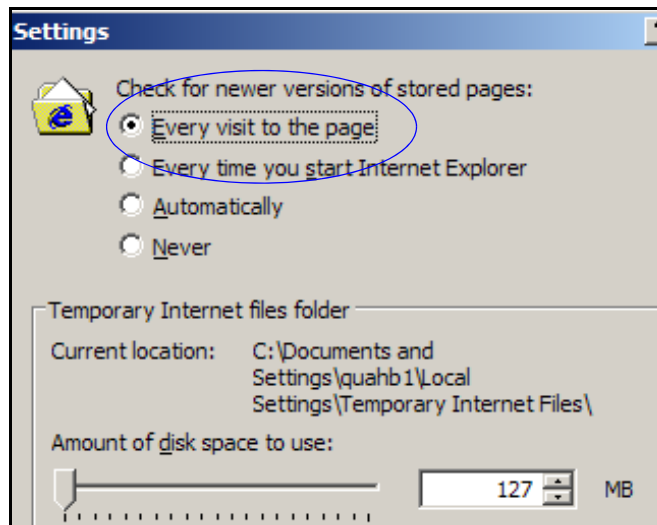

FIG. 11 Internet Page Settings
2. Click **Settings**. Select **Every visit to the page**. Click **OK** (FIG. 11).